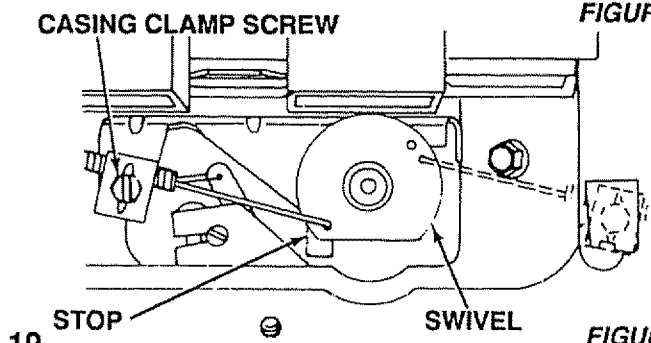

FIGURE 23
- Move throttle cable casing and wire until the swivel contacts the stop (Fig. 23).